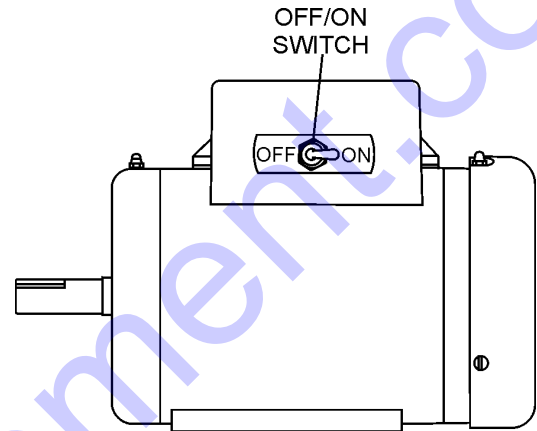

Figure 22. Electric Motor ON/OFF Switch
- To start the electric motor, move the **ON/OFF** switch to the ON position (Figure 22).